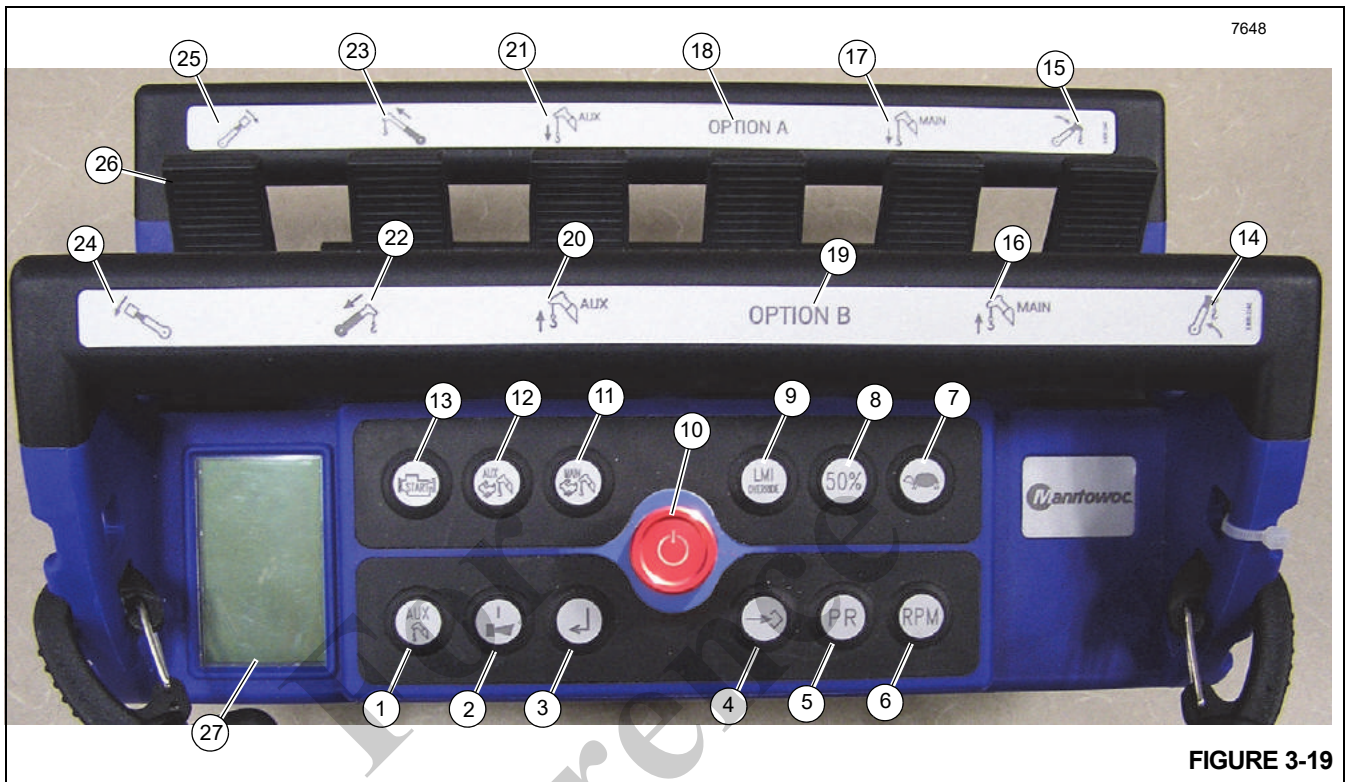
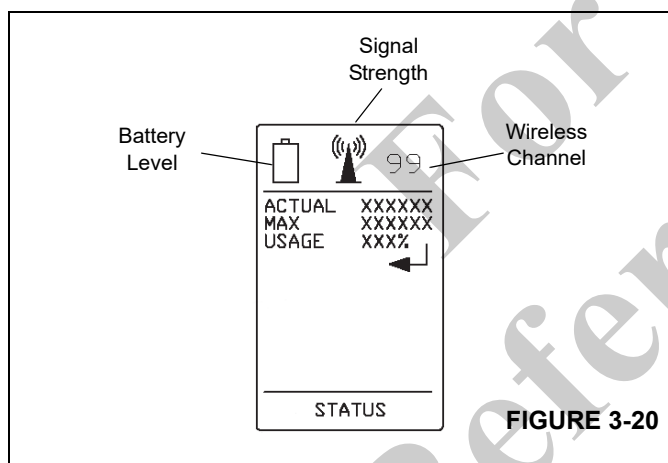

FIGURE 3-19
FIGURE 3-20
The optional Crane Remote Control (Figure 3-19) will allow full remote control of the crane. The standard Remote Control is disabled when using the optional Crane Remote Control.
The LCD Screen (27, Figure 3-19 and Figure 3-20) on the display is used to communicate signal strength, battery level, wireless channel, remote status, and the configuration of the machine based upon which buttons are depressed. RCL information is also displayed to the operator and can be toggled by pressing the Toggle Crane RCL Screen button (3). The following RCL information is available to the operator on the LCD screen:
To use this remote, the red STOP button (10, Figure 3-19) must be pressed to turn ON the transmitter. To control the crane, the ON/Horn button (2) must be pressed to activate the remote. The crane horn will sound as confirmation that the remote is now active. The crane can now be started by pressing and holding the Engine Start button (13). The remote can now be used to control the crane. To activate a function move the joystick (26) that corresponds to the desired movement.
1. To use this remote, the red STOP button (10, Figure 3-19) must be activated to turn on the transmitter.
2. Press the ON/Horn button (2) to activate the remote. The crane horn will sound as confirmation that the remote is now active.
3. Press and hold the Engine Start button (13) to start the crane. The remote can now be used to control the crane.
4. Move the joystick (26) that corresponds to the desired movement to activate desired function.
5. Press the red STOP button (10) when finished with the remote. This will shut off the crane.